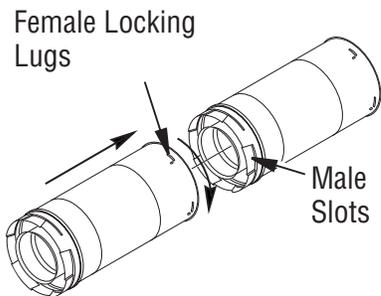

Figure 8 - Vent Pipe Connections
Twist-Lock Procedure: Female ends of pipes have locking lugs (indentations). These lugs will slide straight into matching slots on male ends of adjacent pipes. Push pipe sections together and twist one section clockwise approximately one-quarter turn until sections are fully locked (see **Figure 8**, page 20).
2. Assemble desired lengths of pipe and elbows necessary to reach from fireplace flue up through firestop. Be sure all pipe and elbow connections are fully twist-locked (**see Figure 8**, page 20).